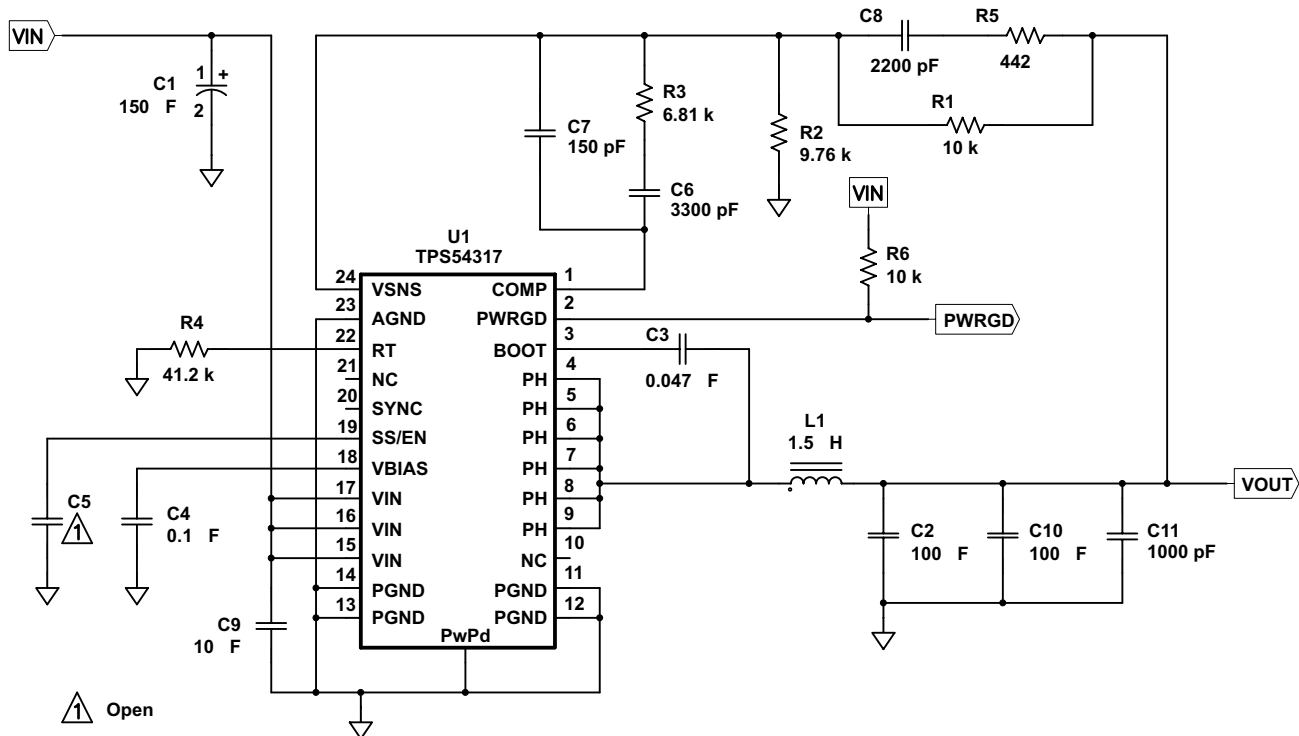

Figure 10. TPS54317 Schematic
(2) Static resistive loads only
(3) Specified by the circuit used in Figure 10.
Figure 10 shows the schematic diagram for a typical TPS54317 application. The TPS54317 (U1) provides up to 3 A of output current at a nominal output voltage of 1.8 V. For proper thermal performance, the power pad underneath the TPS54317 integrated circuit needs to be soldered well to the printed circuit board.